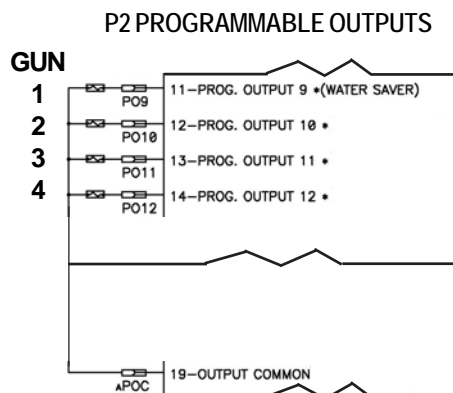

Figure 9-20. Multiple valve connection
2. Connect four valves associated with Guns 1-4 to connector P2 as shown in Figure 9-20.
2. Connect four valves associated with Guns 1-4 to connector P2 as shown in Figure 9-20 (see Section 9.5.1).